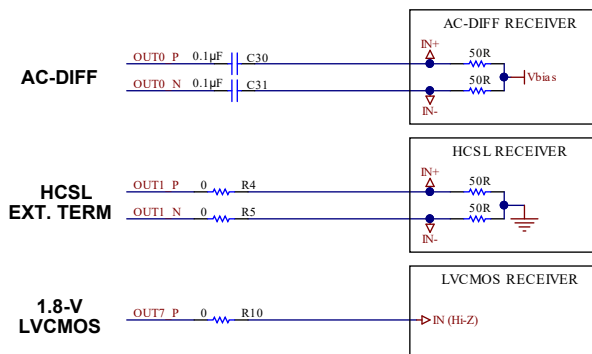

Figure 10-4. LMK5B12204 Reference Schematic Example
Figure 10-4 shows a reference schematic to help implement the LMK5B12204 and its peripheral circuitry. Power filtering examples are given for the core supply pins and independent output supply pins. Single-ended LVCMOS, AC-coupled differential, and HCSL clock interfacing examples are shown for the clock input and output pins. An external LVCMOS oscillator drives an AC-coupled voltage divider network as an example to interface the 3.3-V LVCMOS output to meet the input voltage swing specified for the XO input. The required external capacitors are placed close to the LMK5B12204 and are shown with the suggested values. External pullup and pulldown resistor options at the logic I/O pins set the default input states. The I²C or SPI pins and other logic I/O pins can be connected to a host device (not shown) to program and control the LMK5B12204 and monitor its status. This example assumes the device will start up from EEPROM mode with an I²C interface (HW_SW_CTRL = 0).
- For a 3.3-V LVCMOS driver, follow the OSC clock interface example in Figure 10-4. Power the OSC from a low-noise LDO regulator or optimize its power filtering to avoid supply noise-induced jitter on the XO clock.
- **Reference inputs:** Follow the LVCMOS or differential clock input interface examples in Figure 10-4 or in Section 9.3.3.
- **Clock output Interfacing:** Follow the single-ended or differential clock output interface examples in Figure 10-4 or in Section 9.3.14.
- Power all the VDD pins with proper supply decoupling and bypassing connect as shown in Figure 10-4.